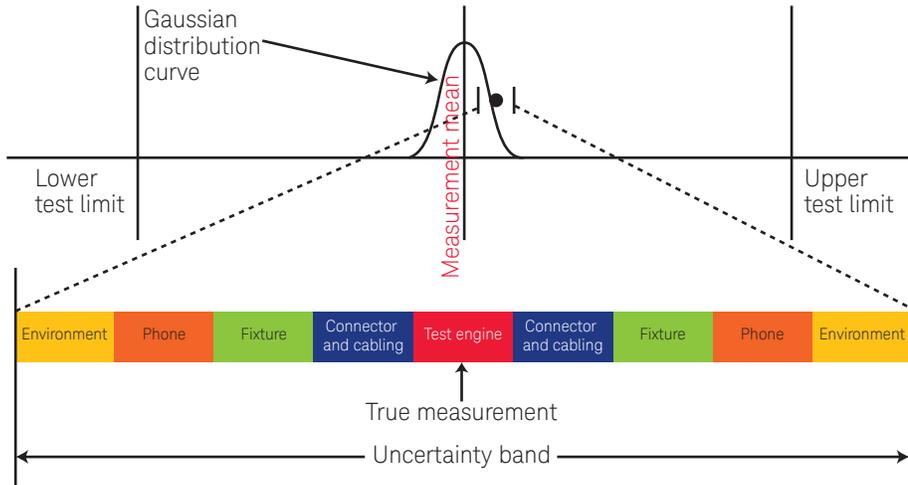
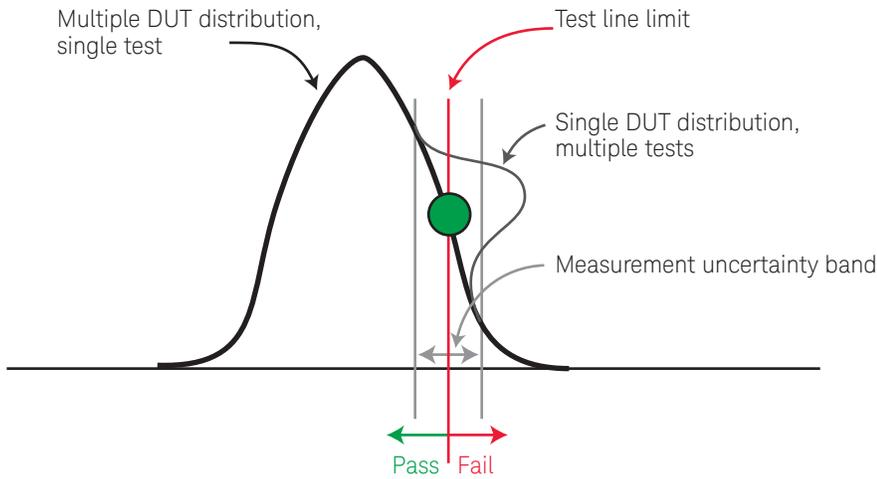
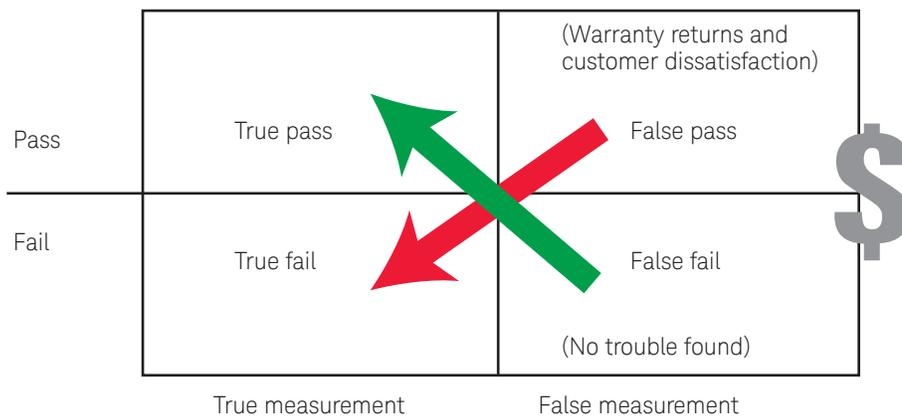
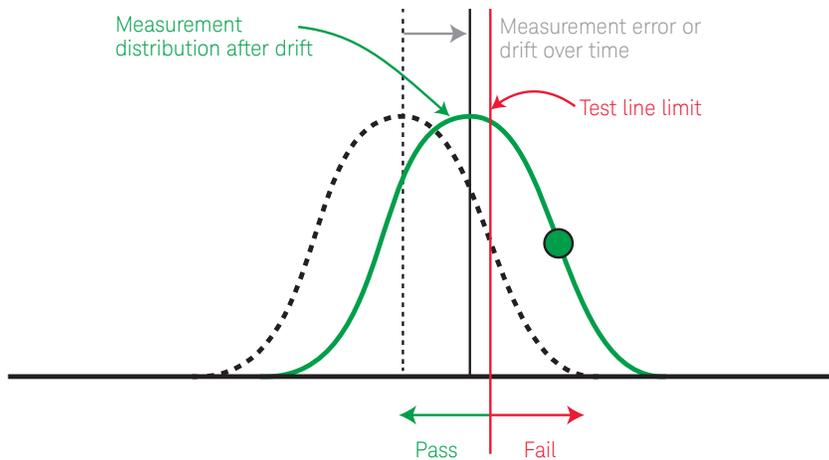

Figure 1. Measurement uncertainty
Figure 2. Test limit crossing multiple DUT single test normal distribution
Figure 3. False passes and false fails
Figure 4. False fail drift
Figure 1 is an example of the composite uncertainty band in the testing of cellular phones. In this example, as in most test environments, the test is only run once and the single result determines pass or fail. If the DUT were to be tested more than once, the result has a high probability it will not be the same the second time. Nor would it be the same the third time. This variation in results is caused by measurement uncertainty and is illustrated with the colored band.
When that colored band of uncertainty crosses a test limit, See Figure 2., the uncertainty of the measurement result begins to be important. As the test result moves closer to the test limit, the importance of uncertainty continues to increase until there is a 50% chance the DUT is a true pass and a 50% chance that it is a true failure. Once the test result and its uncertainty band are beyond the test limit, the probability of being a true failure is 100%. Or is it?
Figure 2. is an illustration of a best-case situation where the test instrument output has been calibrated and then the results adjusted to the midpoint between its OEM specifications. The uncertainty band is the measurement uncertainty of the test instrument and other possible factors as described in Figure 1. With this situation, there is not a measurement error component in the uncertainty band. The green dot is a single DUT result measured once. The pink distribution curve is the distribution curve that is defined by running that single DUT multiple times. That distribution defines the measurement uncertainty associated with that particular test. Each single DUT test result has this measurement uncertainty distribution.
When there are DUT failures, the multiple DUTs single test distribution (this is the heavy black line in Figure 2) falls across one or both of the specification limits for that test. Around the specification limit are four populations; true passes, true failures, false passes, and false failures. In the purest sense, false passes are really true failures and false failures are really true passes. See Figure 3.
Figure 4 illustrates the test results of a single test where the test instrument's output for the particular test has drifted (over time) adding a measurement error component to the original uncertainty band. The single test result in Figure 2 had a 50-50 chance of being a true pass or a true fail. After instrument drift, the result will be a fail. This increase in total fails will have an increased population of false fails. The costs associated with this false fail population (all false fails attributable to the measurement error) create the demand for calibration.
Now let's look to the "Yes, this test is creating DUT failures" answer. There are three populations of failures; true failures, false failures (FF), and false passes (FP). True failures need to be reworked to work properly. No amount of calibration will affect these failures or the costs associated with them. However, the other two are directly related to calibration and uncertainty. FFs and FPs cost money. Please see Figure 3. They cost money in retesting (test time, opportunity cost of not testing new product), diagnosing false failures (labor and opportunity cost), and last false passes (downstream rework, warranty returns and customer dissatisfaction).